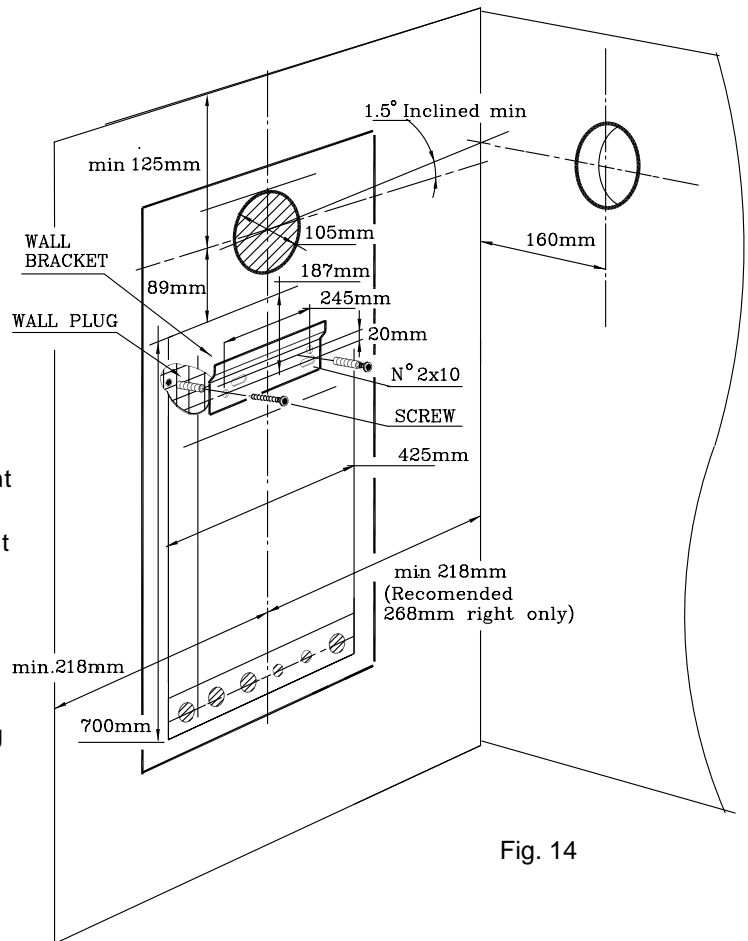

Fig. 14
5.6 INSTALLING THE APPLIANCE FOR SIDE FLUE OUTLET (Fig. 14 15 16 17 18 19)
- Attach the template to the wall with adhesive tape, making sure that the centre line is vertical and that the distance from the centre line to the nearest side wall is not less than measurement in Fig.14.
- Trace the centre of the flue duct hole measure distance . From the corner of the wall (Fig.14), measure the distance (160 mm) between the centre of flue duct hole to the corner. Detach the template from wall.